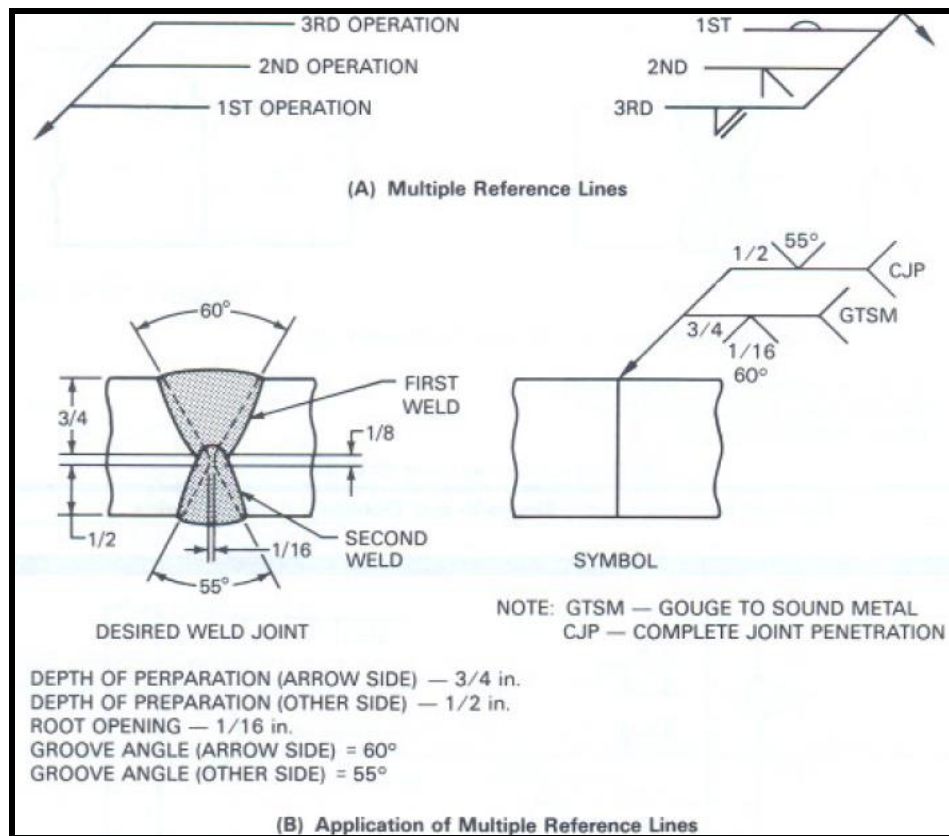

Figure-14: Multiple reference lines & their application in a double-V groove weld.
3.4 Multiple reference lines – Two or more reference lines may be used with a single arrow to indicate the sequence of operations, as shown in figure-14. The first operation is shown on the reference line nearest to the joint. Subsequent operations are shown sequentially on other reference lines joining the arrow. Reference lines may also be mentioned with data supplementing the welding symbol or to specify the inspection requirements. Multiple reference lines are shown in (A) and application with schematic sketch is shown in (B) of figure-14.